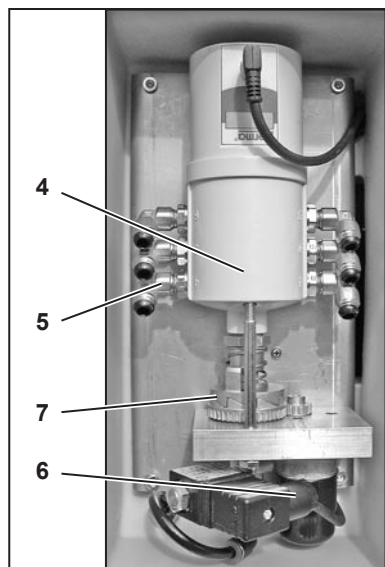

Fig. 3-2 Pump and distributor
- Insert tube ends into lubricant outlets (5, fig. 3-2) and make sure they are tight and secure.